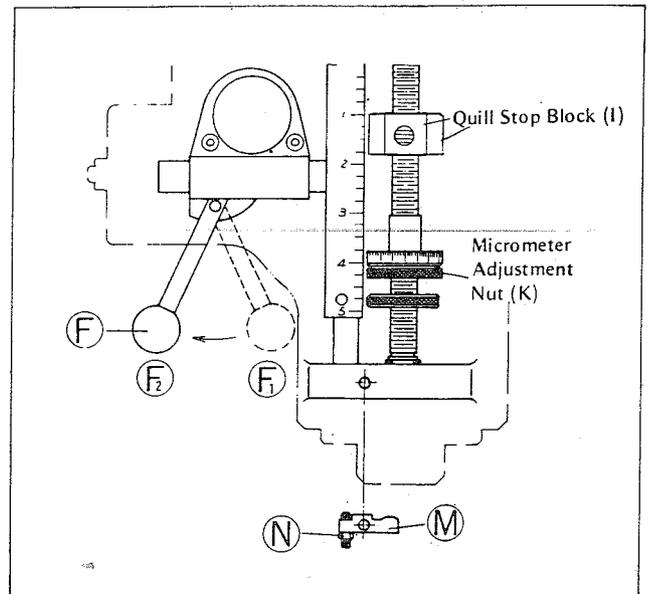

FIG.14
- d. Pull the feed control lever (F) from (F1) to (F2) position (Fig.14) to engage the overload clutch for automatic feed mechanism.
- f. As shown in (Fig.14), the working depth may be set by micrometer adjustment nuts (K) (each graduation is 0.001" or 0.02mm). When the quill stop block (I) contacts the micrometer adjustment nut (K), the feed control lever (F) may simply jump from (F2) back to (F1) position owing to the connecting motion between the feed trip lever and feed trip plunger. This will disengage the overload clutch and stop the spindle feed.
2. The power feed transmission engagement crank (J) (Vide P.1 , P.2) shall be placed at "OUT" position when the automatic feed is not in operation. Do not move the power feed transmission engagement crank when the spindle is in revolution.
Bring quill stop block (I) (Fig.14) at least 5mm downward from the high end position before engage feed control lever (F).